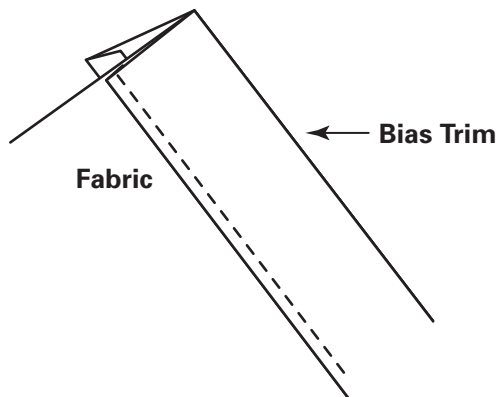

Fig. 21-7
11. Finish the short edges at each end of the side-panel strip with the double-fold bias tape. Cut two strips of bias tape, each 4 inches long. To apply the bias tape, open the tape fold and wrap it over the fabric edge with the fabric edge pressing into the crease. Pin. The side of the bias tape that is slightly narrower should be facing up. Stitch in place close to the loose edge of the tape. (Fig. 21-7)